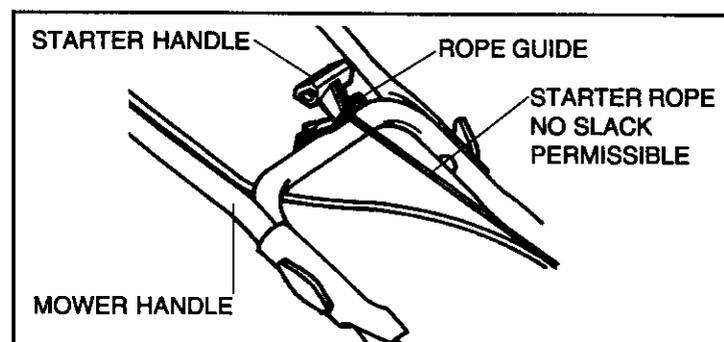

Figure 4
- C. Slide rope stop onto starter rope and feed starter rope through rope guide on mower handle (see Figure 4).
- E. With starter handle resting on rope guide (see Figure 4), check starter rope for slack. If there is any slack, pull more starter rope through starter handle and relocate left hand knot to eliminate slack.
③ CHECK OIL LEVEL:
C. Grasp starter handle (see Figure 4) and pull rope out, slowly, until it pulls slightly harder. Let rope rewind slowly. Then pull rope with a rapid full arm stroke. Let rope rewind **SLOWLY**. Do not let starter handle snap back against rope guide (see Figure 4).